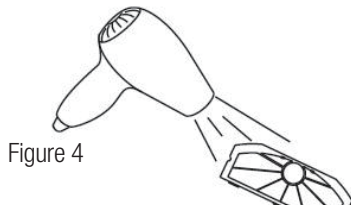
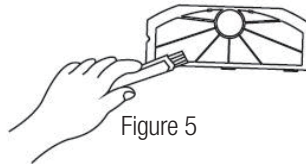

Figure 4
Figure 5
2. Use a hair dryer with cold air to clean the filter (see Figure 4), and dust clean with the dust brush (see Figure 5).
1. Using a screw driver, release the screw in the main shaft of the side brush. (see Figure 4)